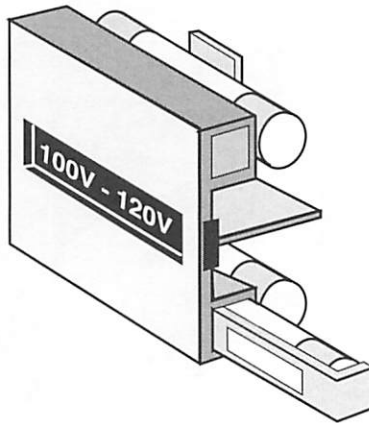

Figure 6-16. The fuses in the fuse carrier.
- 6 Holding the fuse carrier, rotate it so you can see the fuses (see Figure 6-16).
Spare fuses are contained in housings above the fuses in the carrier as shown in Figure 6-16. Between the fuses is a small printed-circuit board (PCB) that sets the power adapter to the desired ac mains voltage. This PCB may slide out of the carrier when handling the housing. The PCB is easily replaced in the following steps.